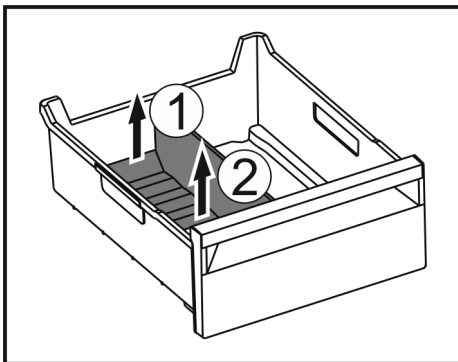

Fig. 96
- Lift the rear part of the ice compartment divider. Fig. 96 (1)
- Remove the ice compartment divider upwards. Fig. 96 (2)